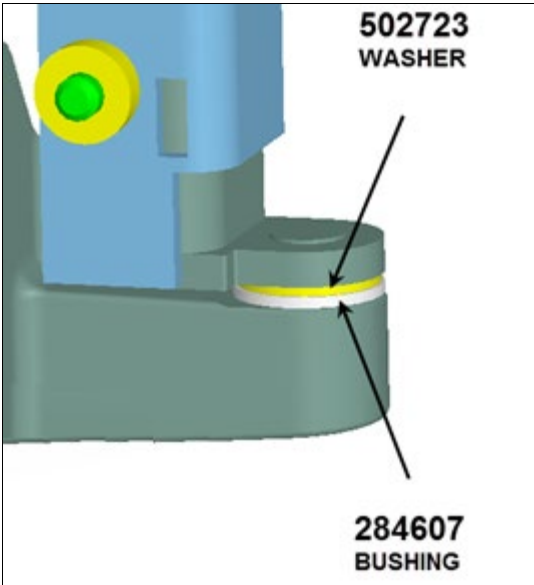

FIGURE 18: WASHER & BUSHING POSITION
- New plastic bushing **284607** and washer **502723** are installed at the pivot point (Figure 18).